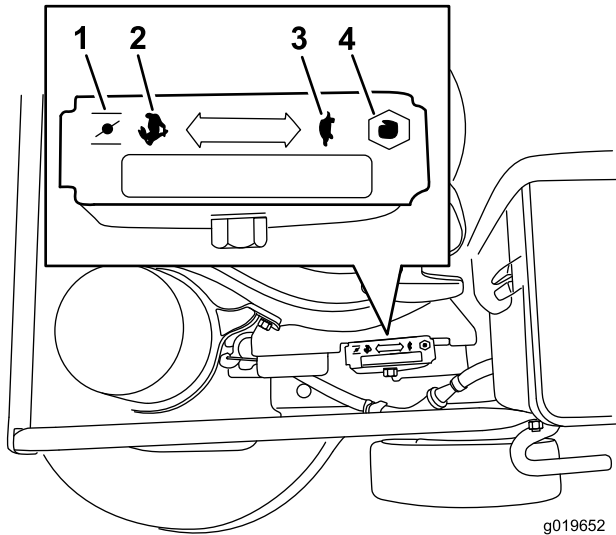

Figure 12
3. Move the throttle control to the Choke position (Figure 12).